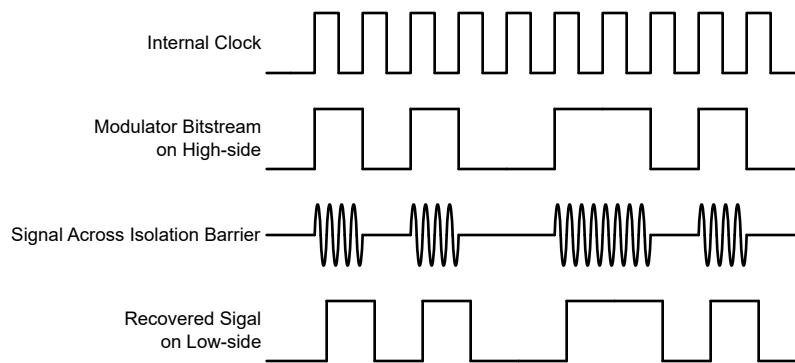

Figure 7-1. OOK-Based Modulation Scheme
As shown in Figure 7-1, the AMC0381D-Q1 uses an on-off keying (OOK) modulation scheme to transmit the modulator output bitstream across the SiO_2 -based isolation barrier. The transmit driver (TX) is illustrated in the Functional Block Diagram. TX transmits an internally generated, high-frequency carrier across the isolation barrier to represent a digital one. However, TX does not send a signal to represent a digital zero. The nominal frequency of the carrier used inside the AMC0381D-Q1 is 480MHz.